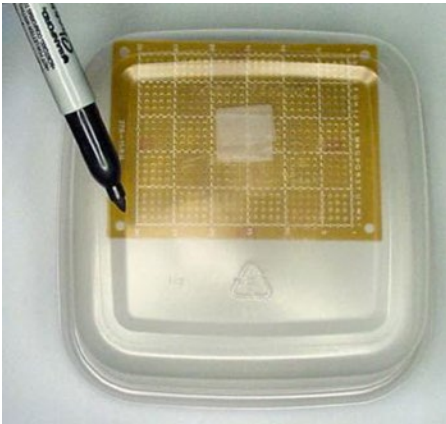

Figure 24-5. Breadboard taped inside the container to mark drill points and determine the amount of space it needs
1. Lightly tape the breadboard or PCB you've chosen to the inside of the container. Make sure to place the board flat against the bottom of the container and as far forward against the front of the container as it will go (see Figure 24-5).